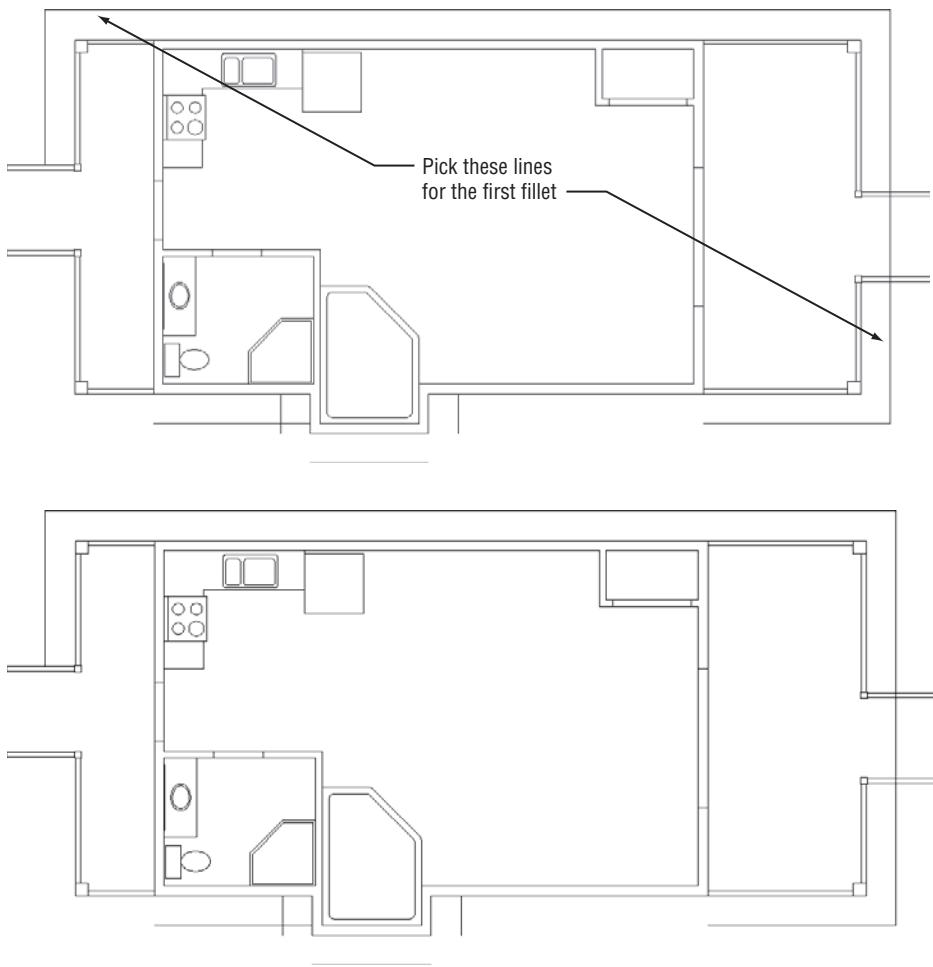

FIGURE 6.41 Picking lines to fillet one of the eaves' corners (top) and the result (bottom)
8. Starting with the horizontal portion of the upper-left L-shaped polyline, click two of these newly offset lines that are on adjacent sides of the building. Work around the building in a clockwise manner, being sure to click the half of the line nearest the corner where the two selected lines will meet (see the top of Figure 6.41). The lines extend to meet each other and form a corner (see the bottom of Figure 6.41). The FILLET command ends.